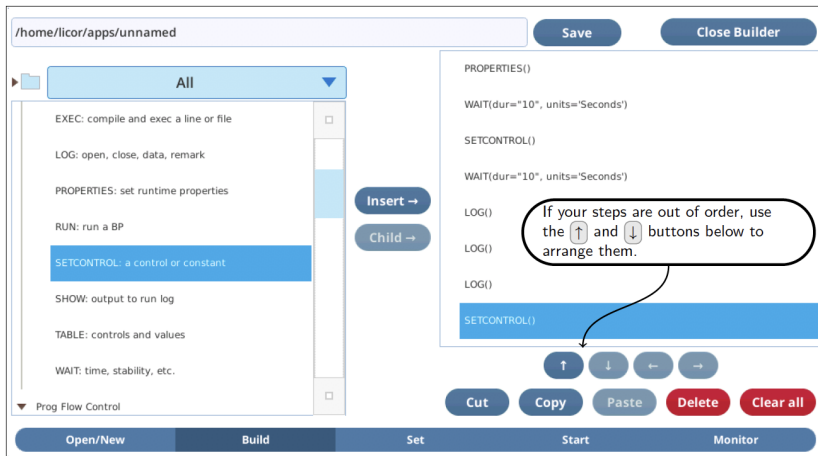

Figure 3-1. The program steps necessary - and not yet configured - for the early morning FoFm example.
- 4 Continue, until the list looks as shown in *Figure 3-1* below.